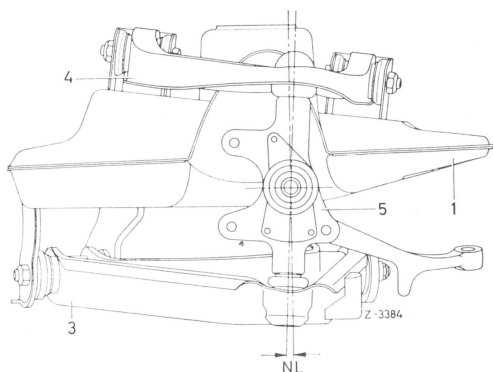

Fig. 3
Camber is adjusted by swivelling the lower control arm **on front bearing** (29) above cam (30a) (Fig. 3 to 5).